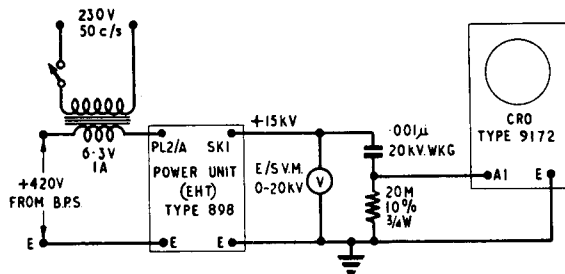

Fig. 3. EHT unit hum test
- (1) Switch off, and discharge the EHT unit.
- (2) Across the 15kV output connect (in addition to the electrostatic voltmeter) the resistor, capacitor and oscilloscope 9172 as shown in fig. 3.
- (3) In series with the raw +420V input line connect a spare heater transformer having a well insulated 6.3V, 1A winding (fig. 3).
- (4) Switch on power, and check hum levels :—
- (5) Switch off power supplies, discharge the EHT unit and remove test components and transformer.